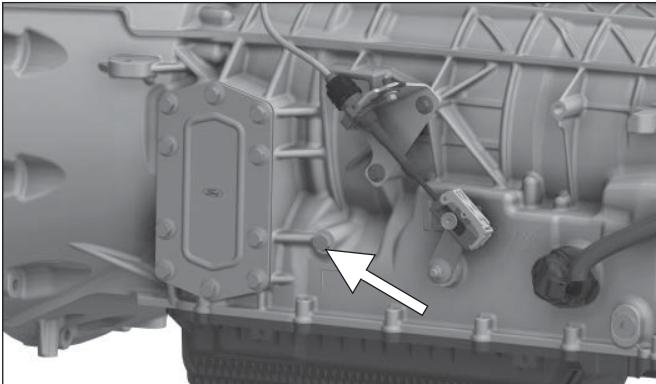

Figure 13
4. Remove the transmission pressure port plug (**Fig. 13**) and follow the instructions outlined below to ensure the 90-degree Adapter Fitting (PN 380750 in **Fig. 14 and Fig. 15**) is properly installed.